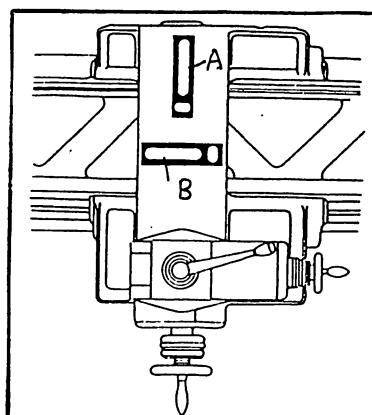

Fig. 6
- (1) Place two precision levels A & B on the cross slide of the lathe. (see fig.6). The accuracy of level should be 0.02mm/1000mm
- (2) Use the apron handwheel to move the apron from spindle side to tailstock side and adjust the foundation bolt to get the tolerance according to the following chart.
- (3) After complete the adjustment, please check the lock nut again.